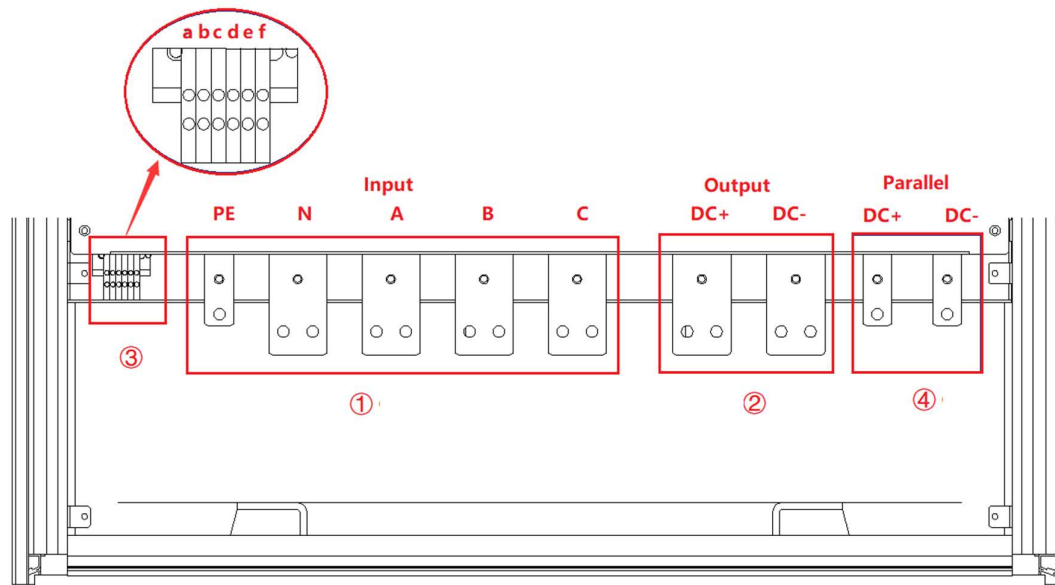

Figure 1-6-2 Power input / output connection layers (Cabinets in parallel)
When the output voltage of the power supply is  $\geq 800V$ , the position of the terminal strip (Figure 1-6③) may change due to the clearance and creepage distance, as shown in Figure 1-6-2.
When the power supplies are used in parallel, the power input/output wiring layer is shown in Figure 1-6-2. Two smaller copper bars (Figure 1-6-2④) are used for parallel wiring between cabinets.